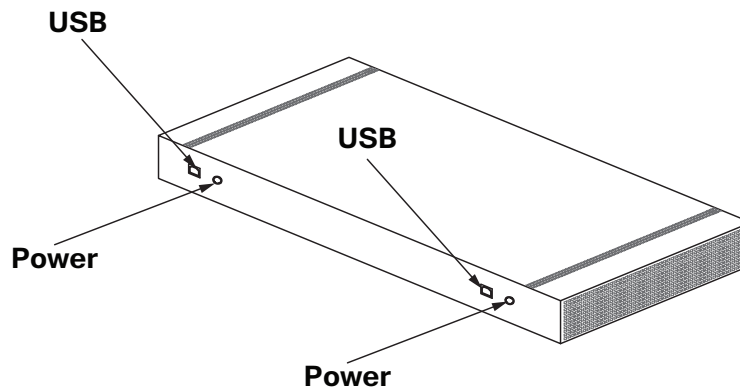

Figure 6 Location of the USB and power terminals on the back of the NC-2100K Coordinator Bundle (1U model)
The Coordinator Bundle connects to the Central server through two USB A to B cables. To connect the Coordinator Bundle to the Central server, attach the supplied USB cables to the USB terminals on the Coordinator Bundle (see Figures 6 and 7) and free USB slots on the Central server.
There are two provided power cables (see Figures 6 and 7). The first time you turn on the Coordinator Bundle, follow these instructions to test it.
1. Attach the provided power cables to the power outlets shown in Figures 6 and 7.